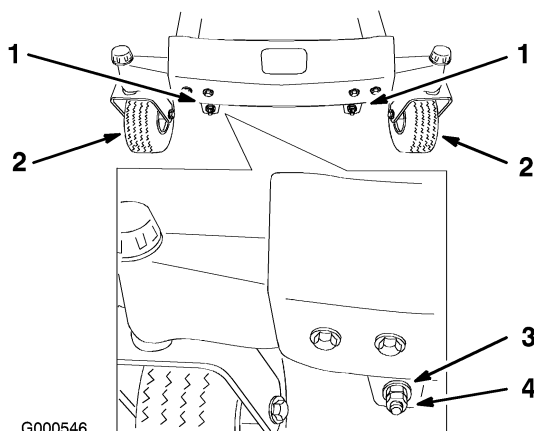
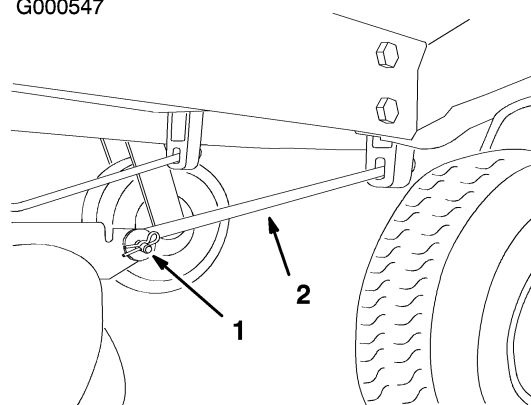

Figure 48
Figure 49
5. Carefully rotate the blade(s) side to side (Figure 48). Measure between the outside cutting edges and the flat surface (Figure 48). If both measurements are not within 3/16 inch (5 mm), an adjustment is required; continue with this procedure.
11. To adjust the front-to-rear blade slope, remove the locknuts and then rotate the adjustment nuts in the front of the mower (Figure 48).
- After adjusting both adjustment nuts evenly, check the front-to-rear slope again. Continue adjusting the nuts until the front blade tip is 1/16-5/16 inch (1.6-7.9 mm) lower than the rear blade tip (Figure 48).
Note: After adjusting the adjustment nuts, make sure there is no slack in either support rod (Figure 49). Tighten either one to remove the slack (Figure 48).
- Remove the hairpin cotter and clevis pin from the front support rod on each side of the mower (Figure 49).
7. Attach the front support rods to the machine with the clevis pins and hairpin cotters (Figure 49).